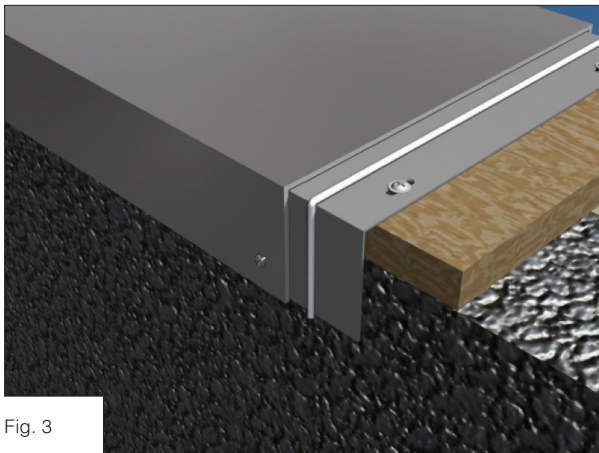

Fig. 3
3. In line with each bracket, on the inside return face pre-drill a 3mmØ hole through the coping panel and bracket. Insert No. 8 x 15mm colour matched flangehead screw, code SC250. Fig. 3